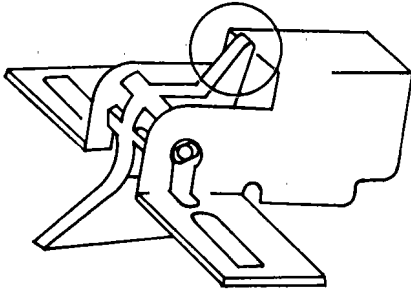

Figure 4-98
- a. Make sure that the boss on the upper separation claw is in contact with the mount as shown in Figure 4-98.